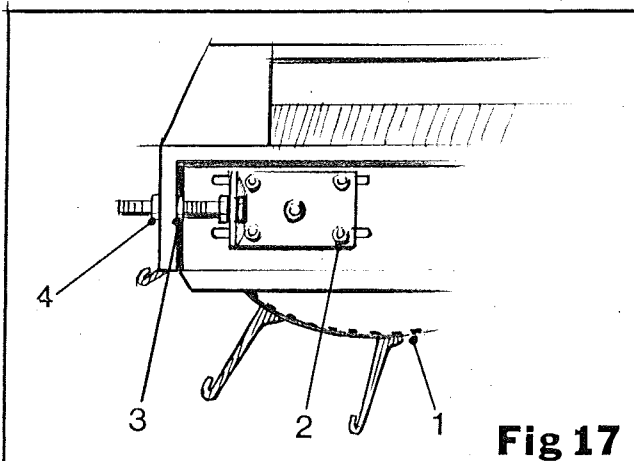

Fig 17
Adjustment is provided to keep the web (item 1, fig 17) tensioned correctly. To adjust loosen the retaining bolts (item 2, fig 17) and the lock nut (item 3, fig 17) and turn the adjusting nut (item 4, fig 17), both sides should be adjusted equally to ensure the web runs centrally in the frame.